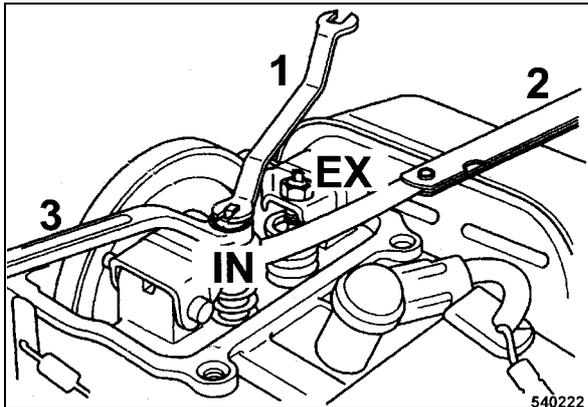

Fig. 51
- Measure the valve clearance between valve adjustment screw and valve with a feeler gauge 2 (Fig. 51).